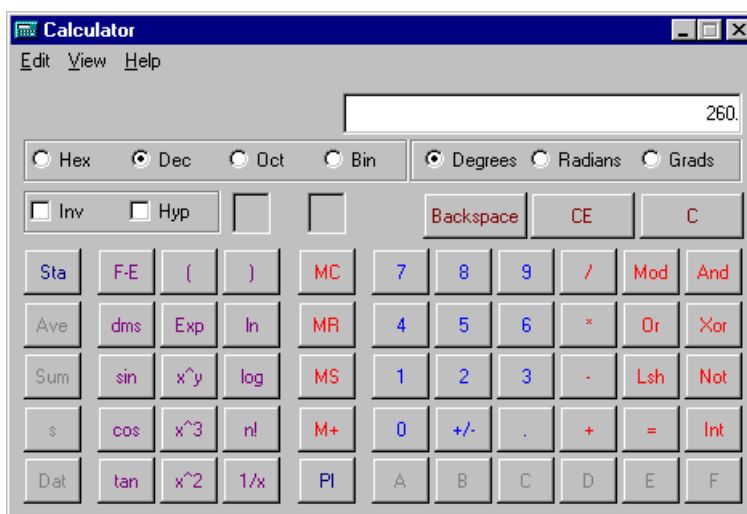

Figure 11-3
1. Enter the value of the code into a calculator that can handle decimal-to-binary conversion (such as the Windows calculator application). For example, figure 11-3 shows a decimal value of 260 for the status code: